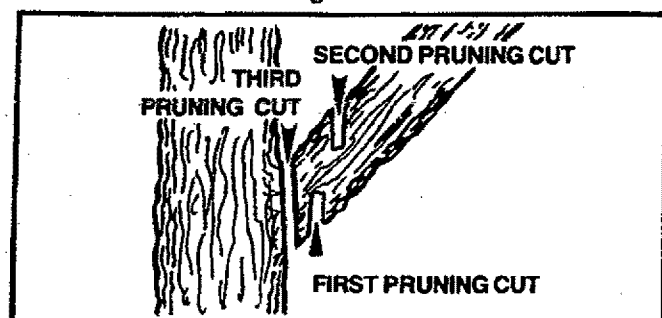

Figure 34
- b. Refer to Figure 34 for pruning technique.